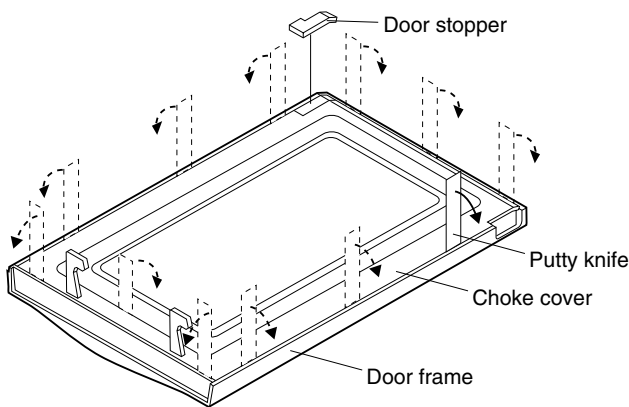

Figure C-7. Door Disassembly
6. Insert a putty knife (thickness of about 0.5mm) into the gap between the choke cover and door frame as shown in Figure C-7 to free engaging parts.